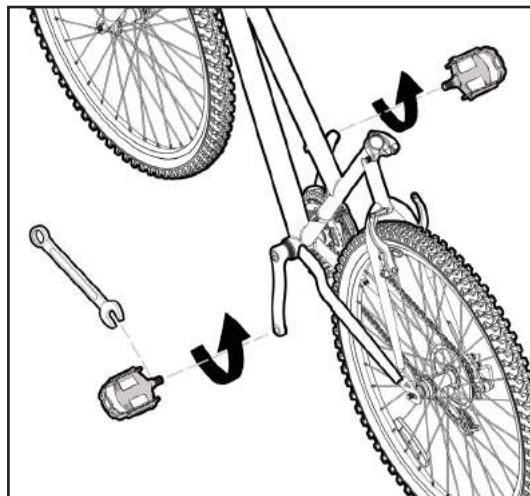

Figure 3
- Pedal marked “L” has left hand threads. Tighten in a counterclockwise direction (see Figure 3).